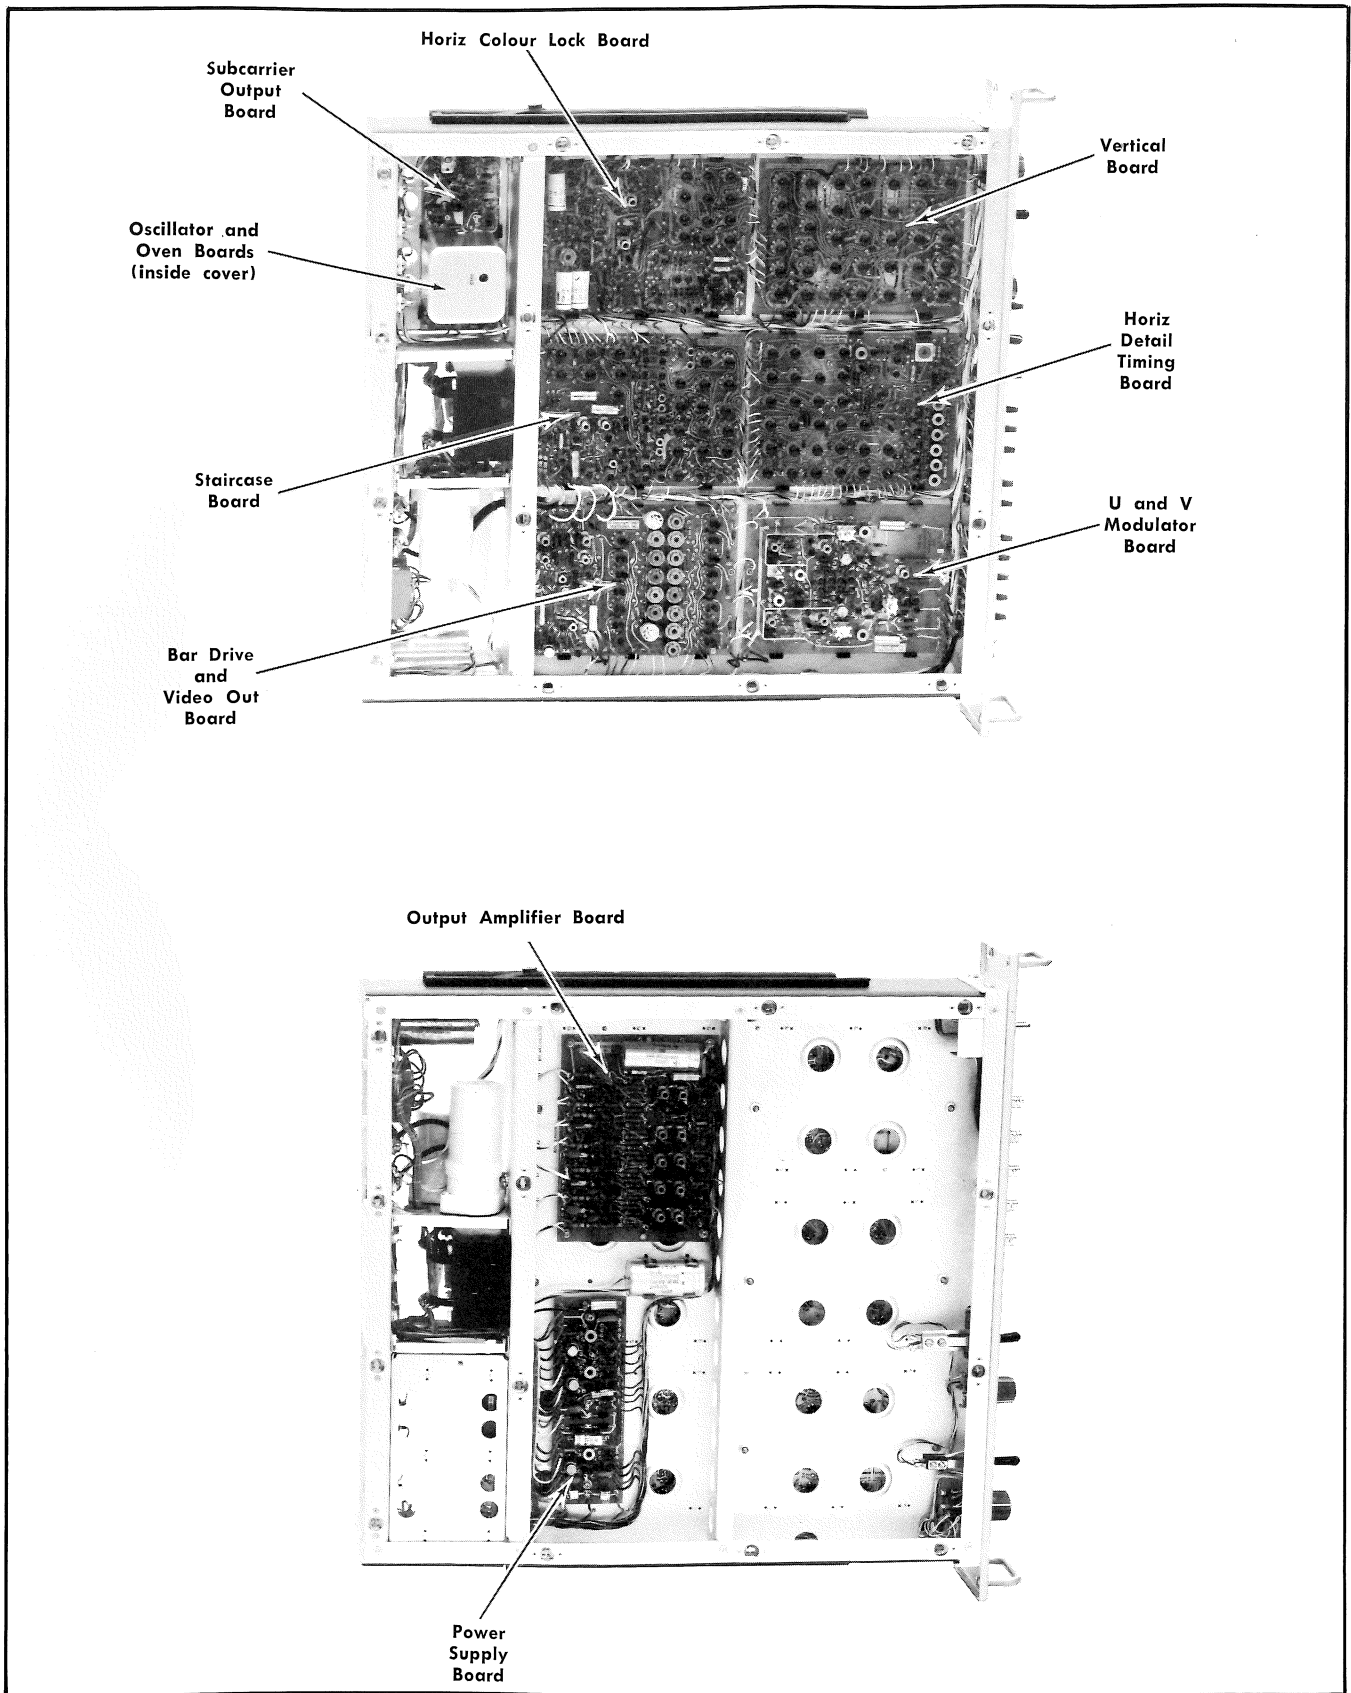
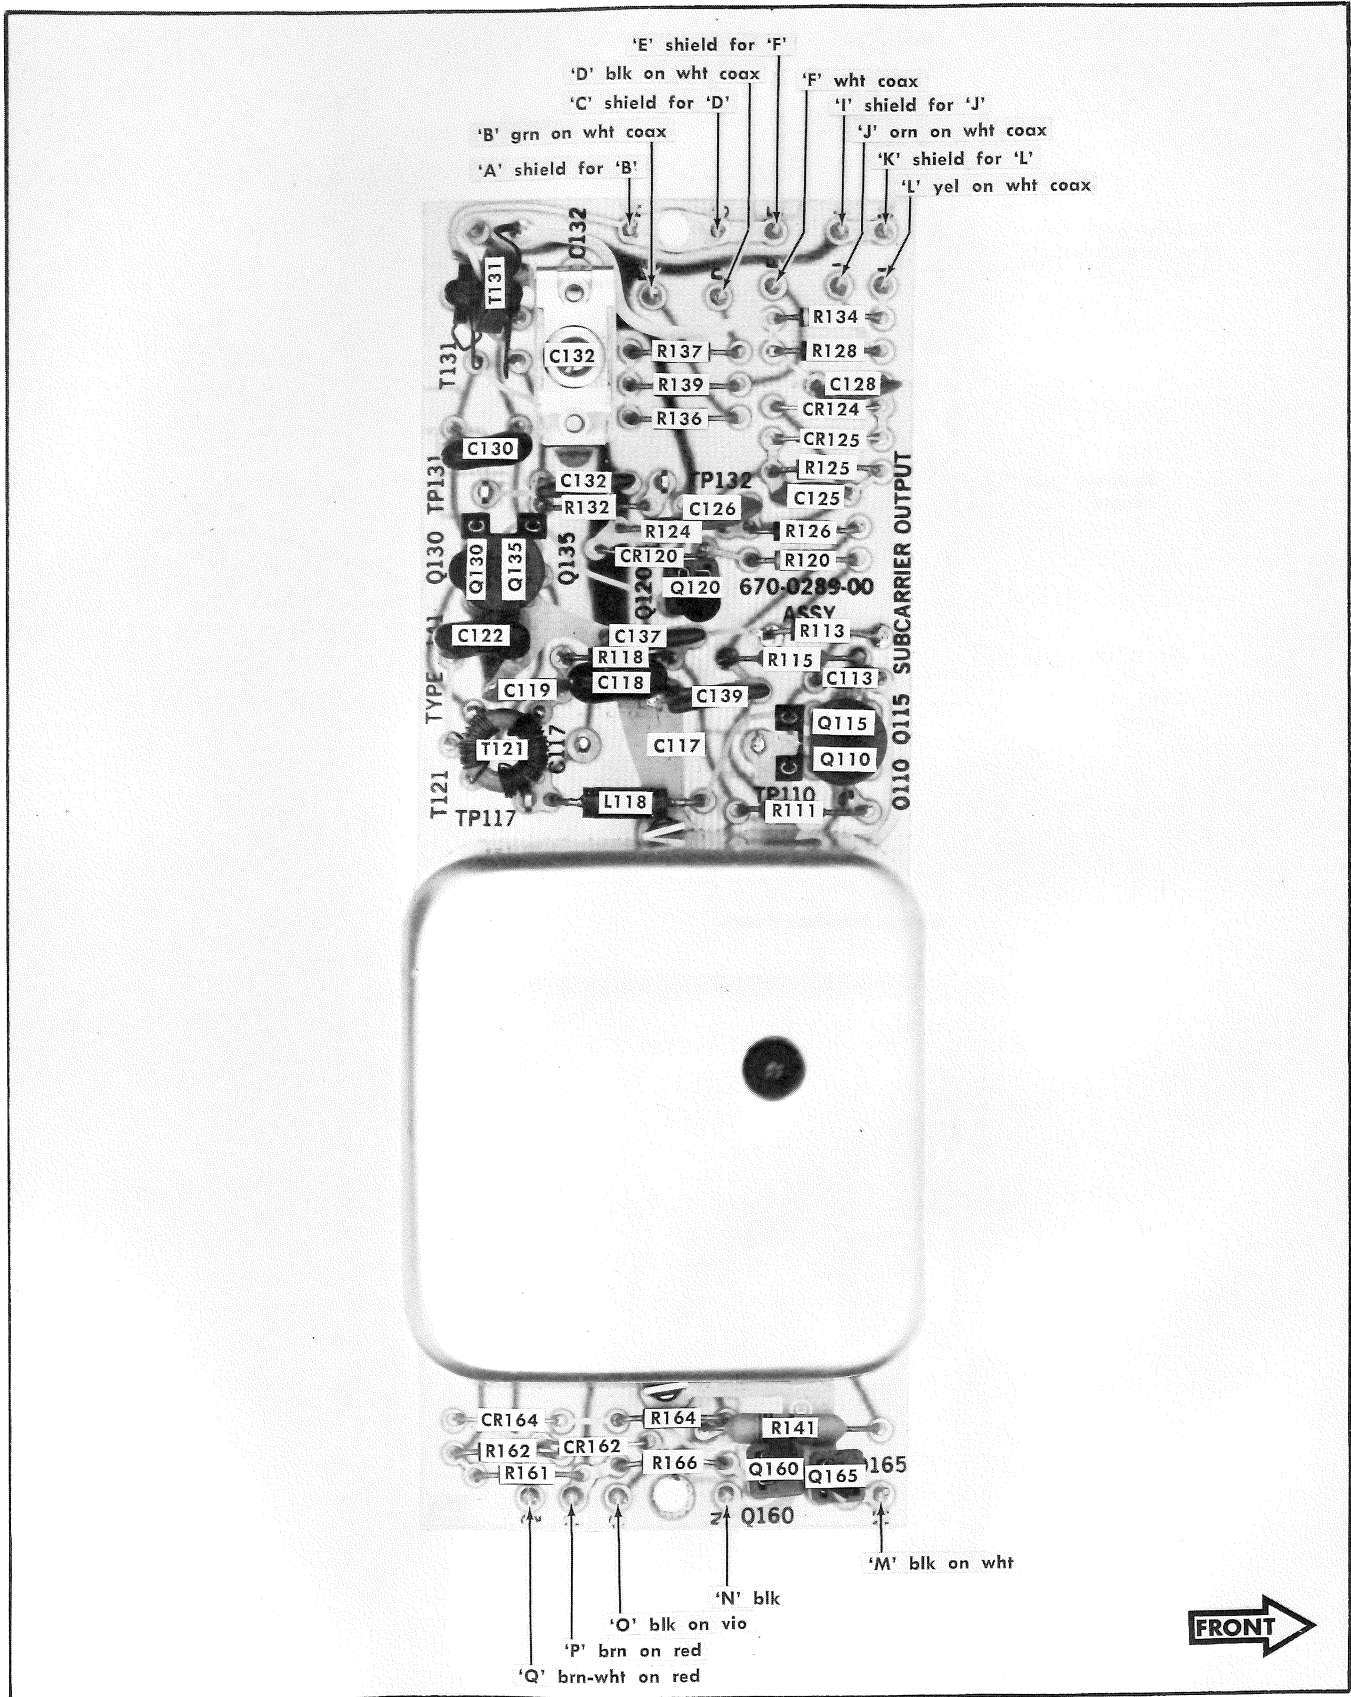

Fig. 4-5. Location of circuit boards in the Type R141A.
Fig. 4-6. Subcarrier Output board; component identification and wire colour code.
**Circuit Boards.** Fig. 4-5 shows the location of each circuit board within the instrument. Fig. 4-6 through 4-15 show a full view of each circuit board. Each electrical component on the boards is identified by its circuit number, and all wire colour codes are shown. These pictures, used along with the diagrams, aid in locating the components on the circuit boards.
**6. Check Circuit Board Interconnections.** After the trouble has been isolated to a particular area or circuit, check the pin connectors on the circuit board for correct connection. Figs. 4-6 through 4-15 show the correct connections for each board.